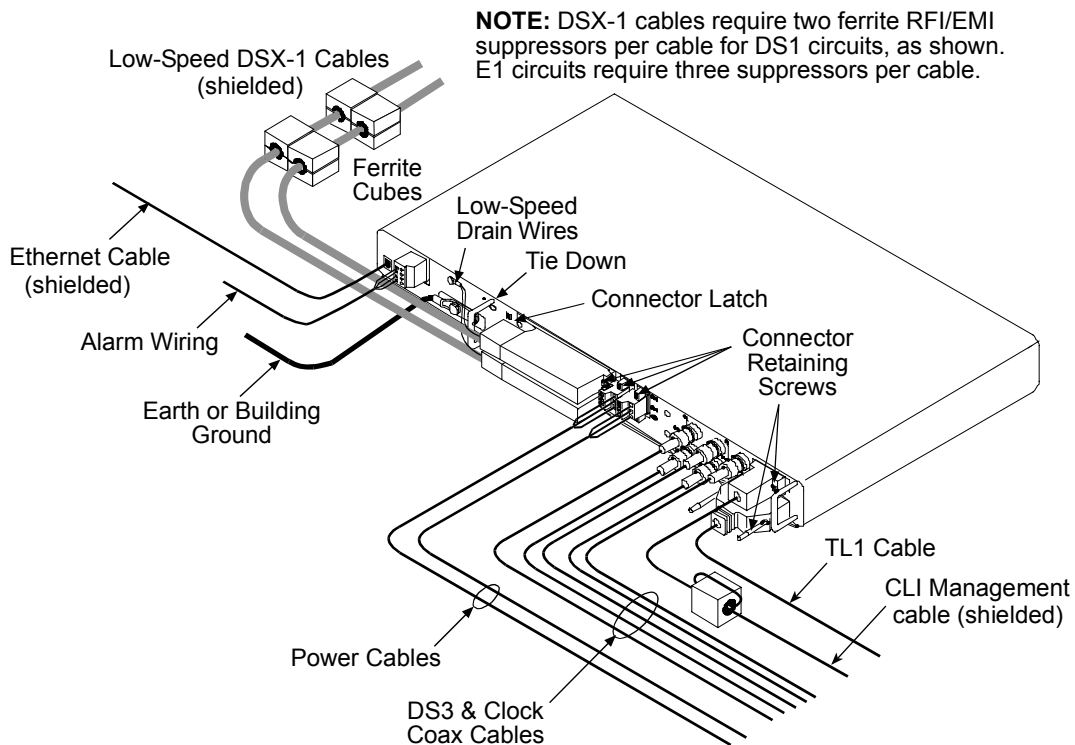

Figure 5-2 Cable and Wiring Layout Example
6. Attach ferrite RF Suppressors on the low-speed cables (two per cable for DS1, three per cable for E1) as shown in Figure 5-2.